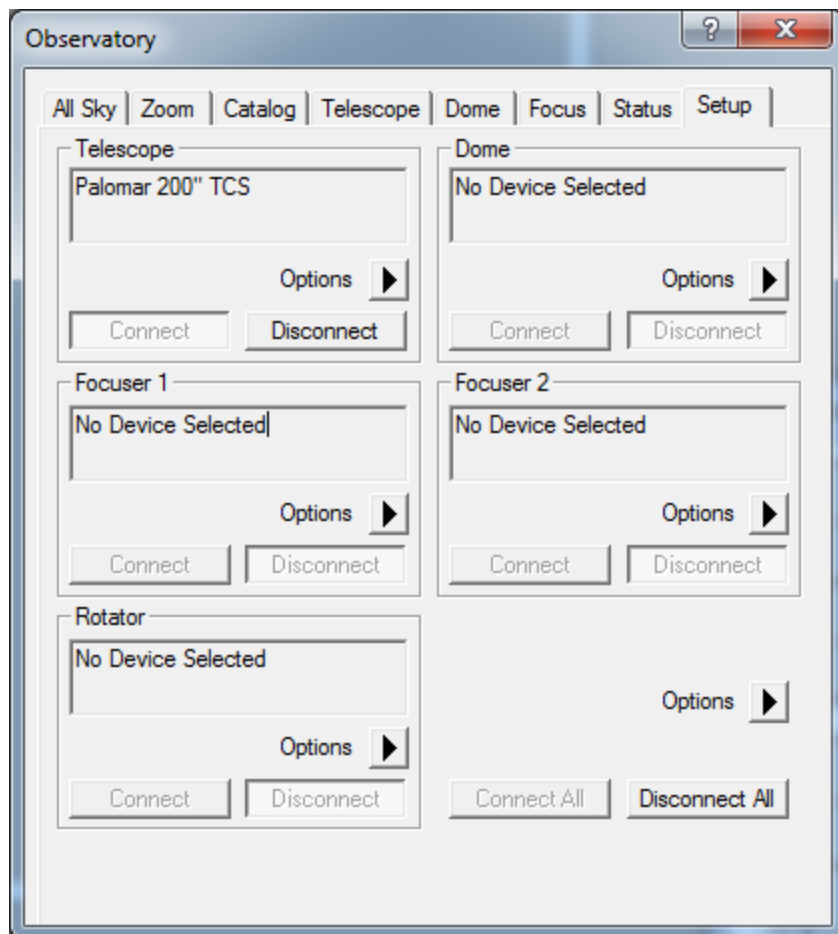

Figure 4: Observatory Control Window setup box. Click connect on Telescope with Palomar 200-inch TCS.
- Go to the “Setup” tab, and click “connect” on the telescope box in the top-left. It should already be displaying “Palomar 200-inch TCS” as the Telescope (see Figure 4).